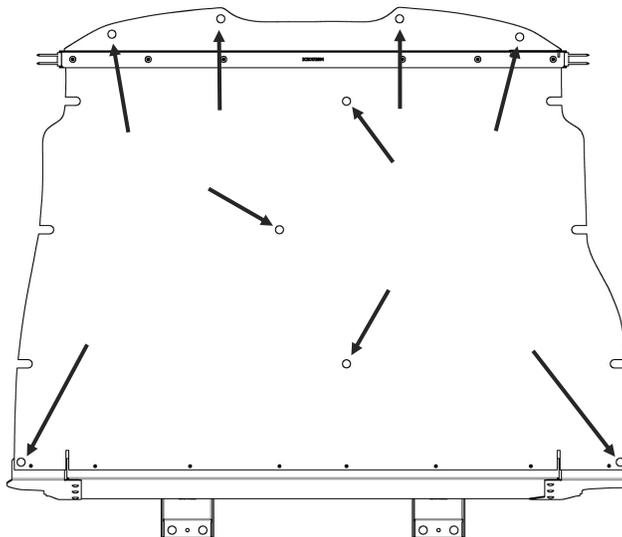

Figure 5
- B. Loosely install (4) Philips head screws [3X03] into the front of the Top Panel. (3) screws will go into the Front Panel and (1) screw will go into the Wing.
- F. Prepare (6) Philips head fasteners [3X03] and (6) black whiz nuts [3X612] at the rear of the cargo area.
- G. Align the (6) holes in the Top Panel Assembly bar with the corresponding holes in the Rubber Top Cover, Driver and Passenger Top Panels, and the Support Weldment. Loosely install the fasteners prepared in Step F. with the whiz nuts on the bottom.
- H. Locate the remaining (8) Philips head fasteners [3X03] and (8) black whiz nuts [3X612] and loosely install them along the spine on the underside of the Top Panels that connects the Driver Top Panel to the Passenger Top Panel.
- B. Roll the front of the Rubber Top Cover back and use a Philips screwdriver to tighten the (8) Philips head screws that were installed in Section IX Step B.
- C. Lay the Rubber Top Cover out and align all the holes. Use the (9) push-in rivets [3X246] to secure the rubber (Fig. 5).